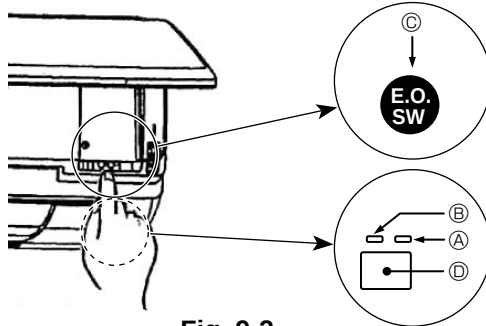

Fig. 9-2
- To stop operation, press the button (D) or the button (C) for more than 2 seconds.
[Fig. 9-2] (A) DEFROST/STAND BY lamp (Orange)